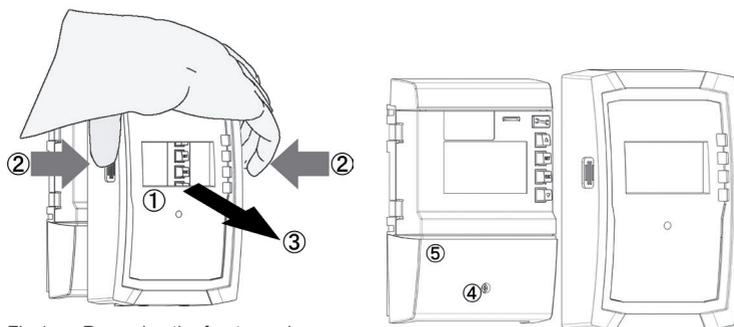

Fig 1: Removing the front panel
- ▶ Grasp the front panel ① by the grooves at the sides ② and pull forwards ③ (Fig. 1).
1. Remove the screw ④ (Fig. 1).
2. Remove the terminal cover ⑤.